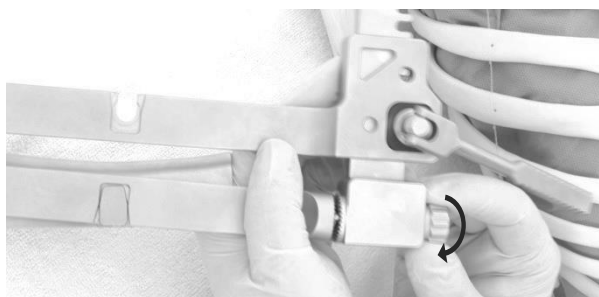

Fig. 11
2. Turn the rotary clamping arm by loosening the clamping screw until the gears no longer engage. Turn the rotating retractor arm anticlockwise up the stop (the gearing also allows less rotation). Tighten the clamping screw by hand (Fig. 11).